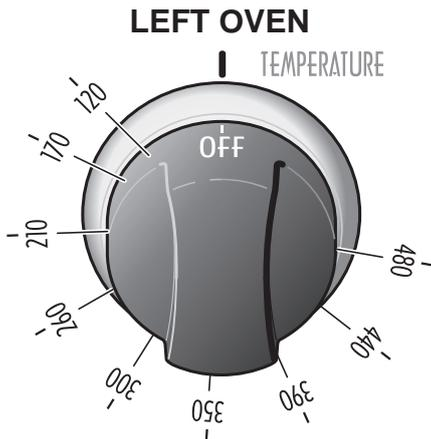

Fig. 3.2a
**THERMOSTAT KNOB (LEFT and RIGHT OVEN)** (fig. 3.2a - 3.2b)